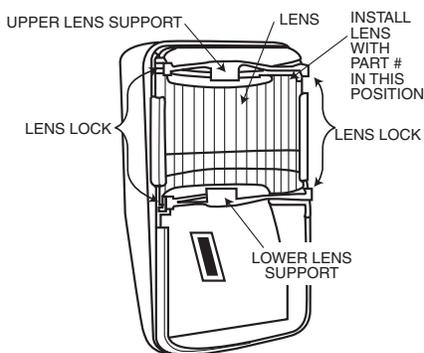

Figure 4. Changing Lenses
2. Squeeze upper lens lock located in front cover to release upper Fresnel lens support. Squeeze lower lens lock to release lower Fresnel lens support (see Figure 4).
4. Carefully remove the existing lens and replace with an optional coverage replacement lens. *The lens must be installed with the smooth side facing outward. Also, the lens should be oriented with its part number on the upper right-hand side (see Figure 4).* Be sure to center the lens.